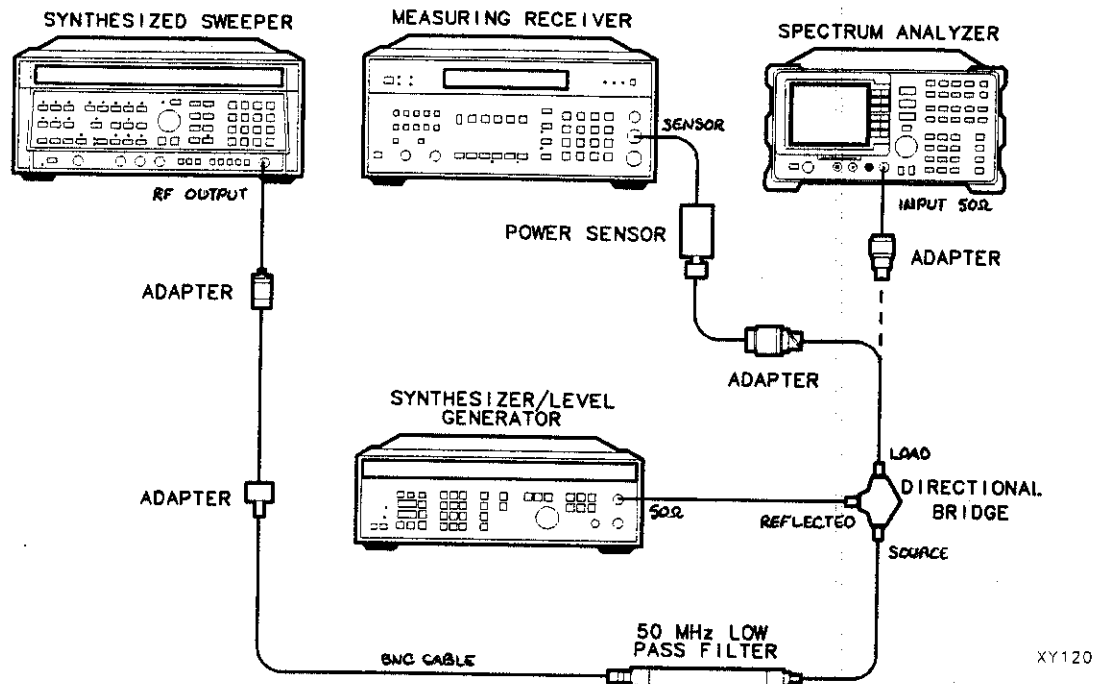

Figure 1-20. Third Order Intermodulation Distortion Test Setup
2. Connect the equipment as shown in Figure 1-20 with the output of the directional bridge connected to the power sensor.